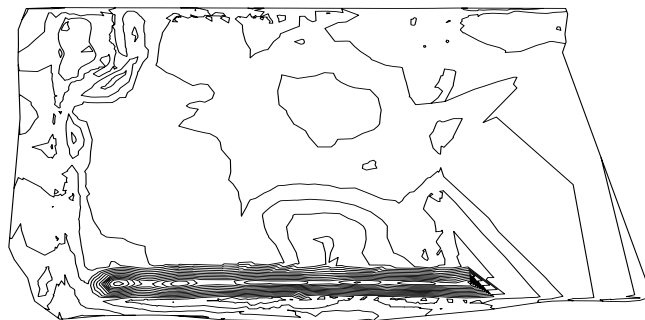

Figure 3-58 The **EG Surface** displayed in the drawing area
1. Enter **ZE** in the command line and then press ENTER; the surface is displayed with a surface border, and the major and minor contours, as shown in Figure 3-58. This is due to the default surface style settings of the template file.